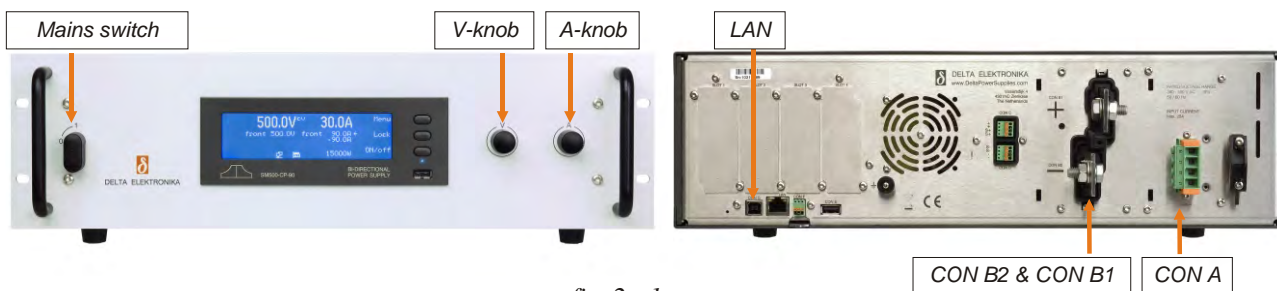

fig. 2 - 1
- Use the included 4-pole header with the markings L1, L2, L3, PE for connecting the wire to the unit (see fig. 2 - 1). The mounting torque for the header terminals is 0.6 Nm.
- These terminals are located at the rear side, marked as CON B1 (PLUS) and CON B2 (MINUS), see fig. 2 - 1.